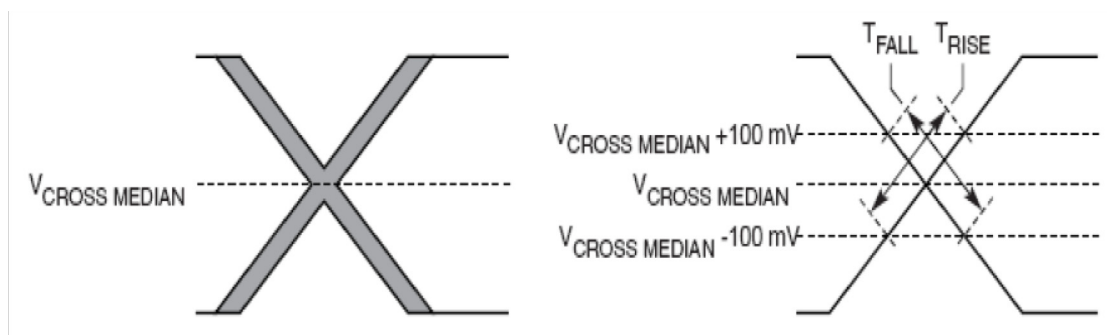

Figure 43. Single-Ended Measurement Points for Rise and Fall Time Matching
- 6 Matching applies to rising edge for SD_REF_CLKn and falling edge rate for SD_REF_CLKn_B. It is measured using a 200 mV window centered on the median cross point where SD_REF_CLKn rising meets SD_REF_CLKn_B falling. The median cross point is used to calculate the voltage thresholds that the oscilloscope uses for the edge rate calculations. The rising edge rate of SD_RF_CLKn should be compared to the falling edge rate of SD_REF_CLKn_B; the maximum allowed difference should not exceed 20% of the slowest edge rate. See Figure 43.